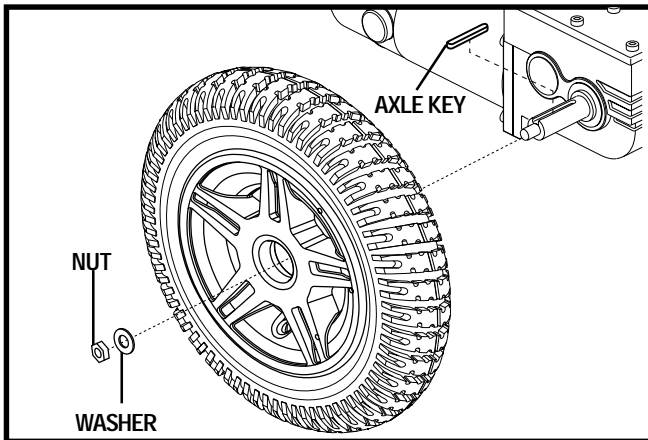

Figure 21. Jazzy Select 14XL Drive Wheel
4. Remove the drive wheel nut and washer from the axle. See figure 21.